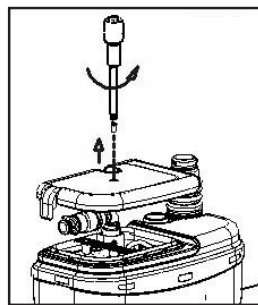
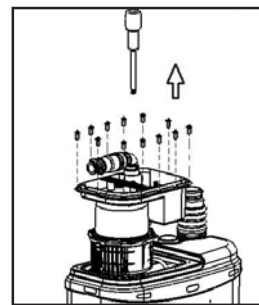

FIGURE 2
FIGURE 3
1. If you must access the macerating unit, remove the hood screw (3) (Figure 2), followed by the 12 screws from the motor mount (35) (Figure 3) and, with the handle, extricate the motor-pump assembly, and remove the pipe ring from the turbo-jet.